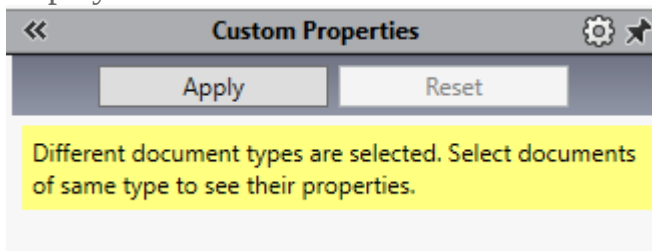

Figure 4. Error message when selecting part and subassemblies components simultaneously.
- There is no universal tab that could work for both part and subassembly files; as a result, when selecting components of different types, the following error shown in Figure 4 is displayed: